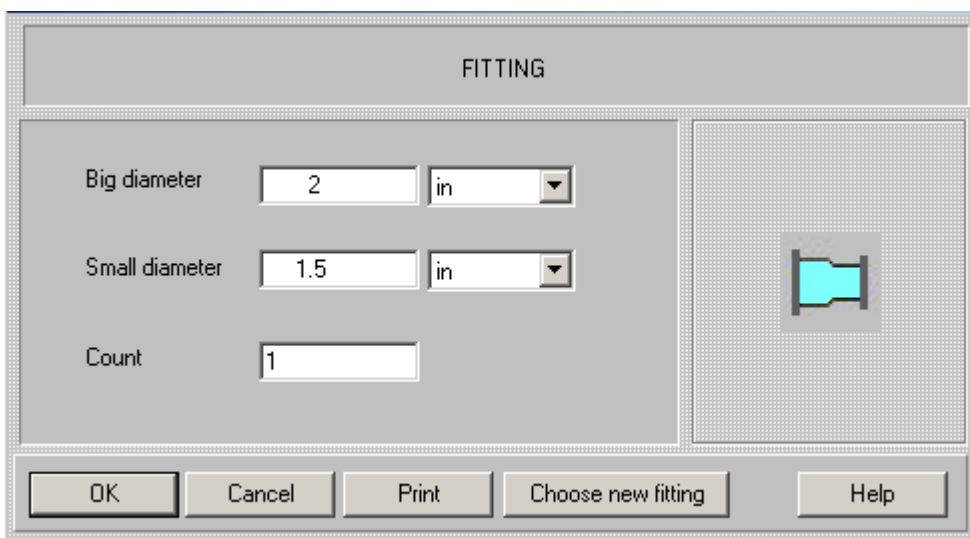
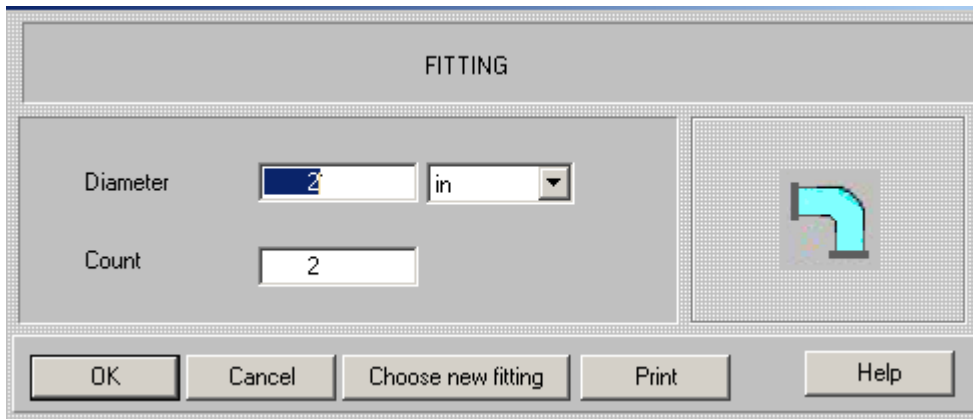

Figure 13.
Figure 14.
- Enter data on the selected fitting accordingly to the program request. For Reducer you enter two diameters - **Big** and **Small** (Figure 13) , for any other fitting or valve – only the nominal diameter that is equal to diameter of the corresponding pipe (Figure 14). The maximum count (number) of identical fitting allowed by the program – three units.